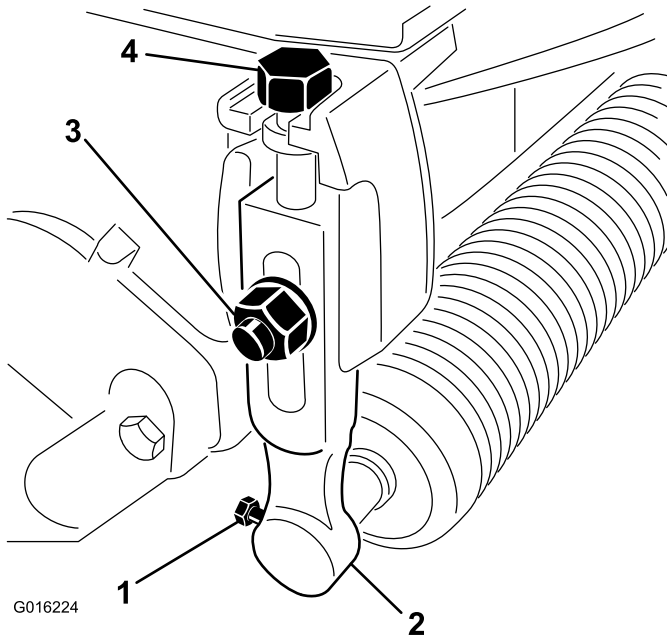

Figure 1
2. Loosen the screws securing each end of the front roller to the height-of-cut arms (Figure 1).
3. Remove the plow bolts, washers, and locknuts securing the height-of-cut arms to each end of the cutting unit (Figure 1). Remove the height-of-cut arms and roller assembly.
4. Remove the height-of-cut adjusting screws from the height-of-cut arms (Figure 1).